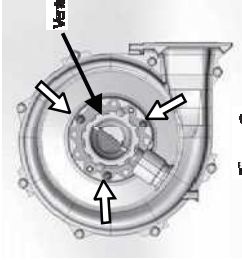
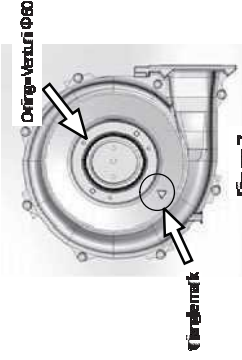

Figure 6
Figure 7
- 6) Remove 3 screws with a Phillips screwdriver (Figure 6).
Make sure that the O-Ring is secured properly in place (Figure 7).
- 7) Install the Venturi so that the orifice connection in the direction of the triangle mark (Figure 7). Secure the Venturi to the Fan Motor by using the 3 screws (Figure 6).